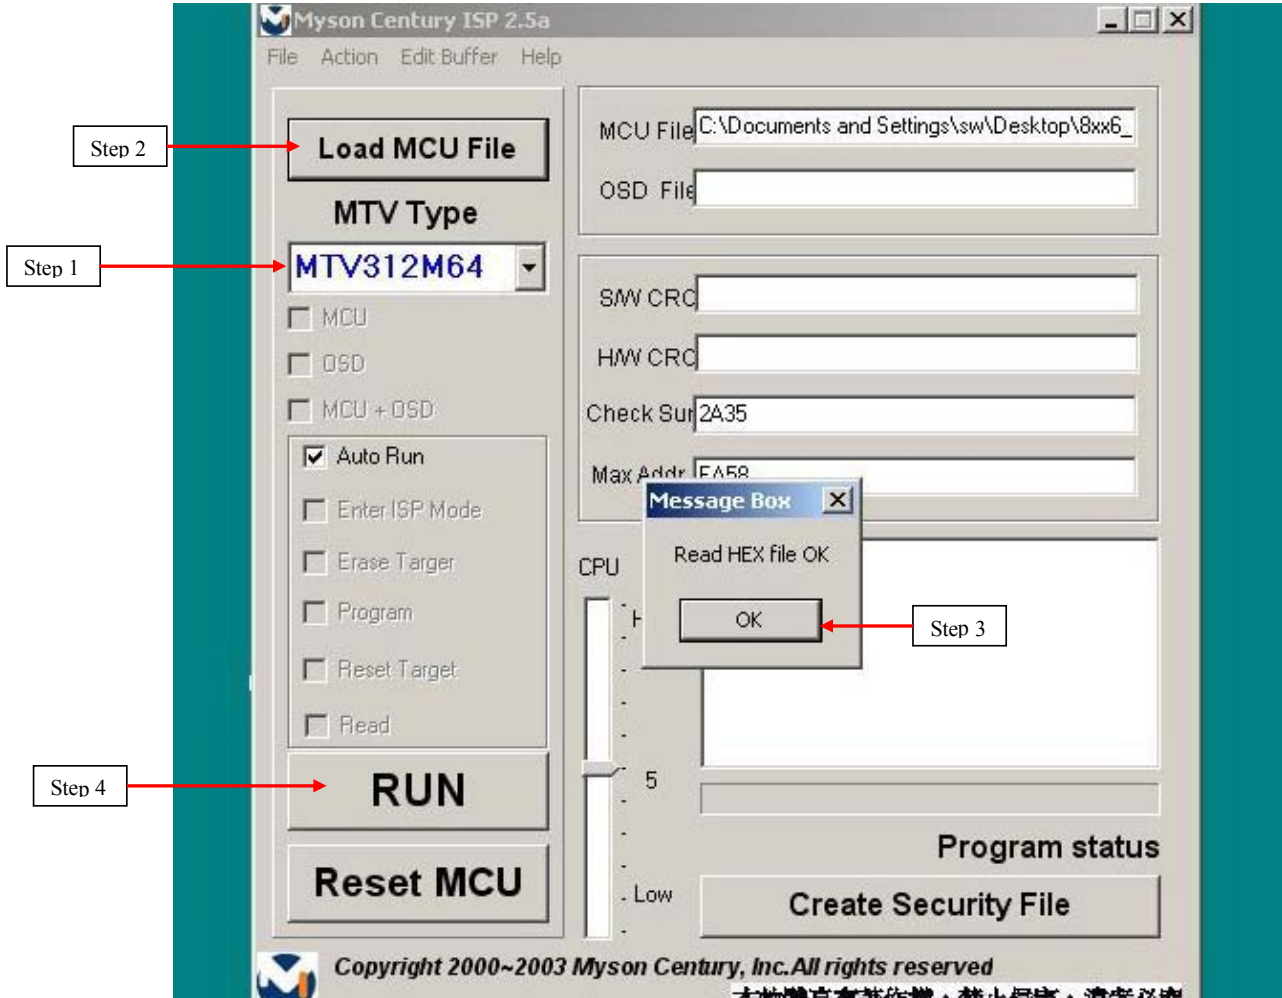

Fig. 3.1
1. As shown in Fig. 3.1, select the MTV type first, load the binary or intel hex file to be programmed into the MCU, click "OK," then press the "RUN" button.